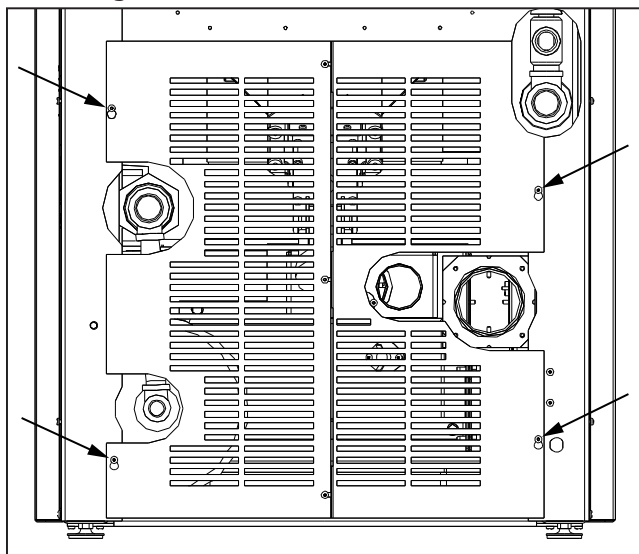

Figure 11
2. Loosen the four (4) screws pointed out in Figure 11. Lift the back grill up and remove it from the unit.